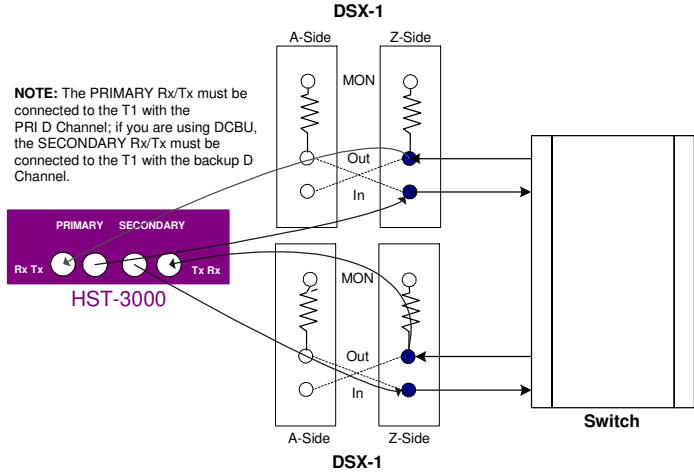

Figure 17 NFAS connection
- 7 Connect the HST-3000 to the test access point. Figure 17 illustrates a NFAS connection.
- For an illustration of an NFAS connection, see Figure 17 on page 166.